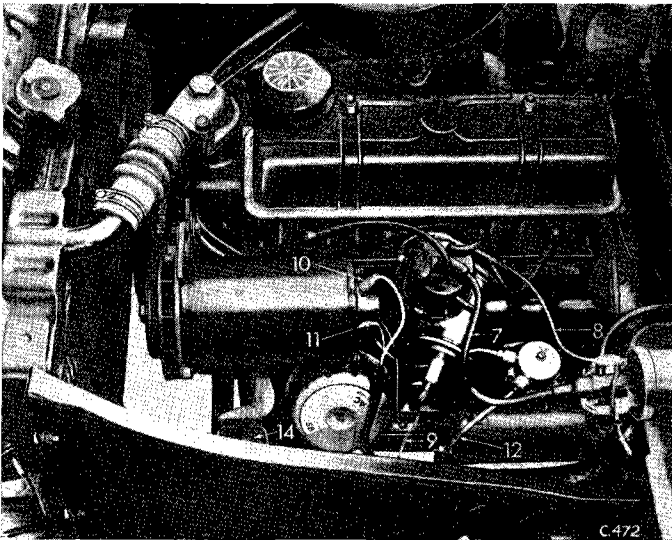

Fig. 11. L.H. view of engine
Refer to Fig. 11 and disconnect: (L.H.S.)
- Front engine mountings (14) Fig. 11.
- Front mounting (14) (Fig. 11).
- Fuel pipe to pump (12) (Fig. 11).
- Cables to coil (7) (8) and 'D' and 'F' cable to generator (10) (11) (Fig. 11).
- Oil pressure switch cable (9) (Fig. 11).